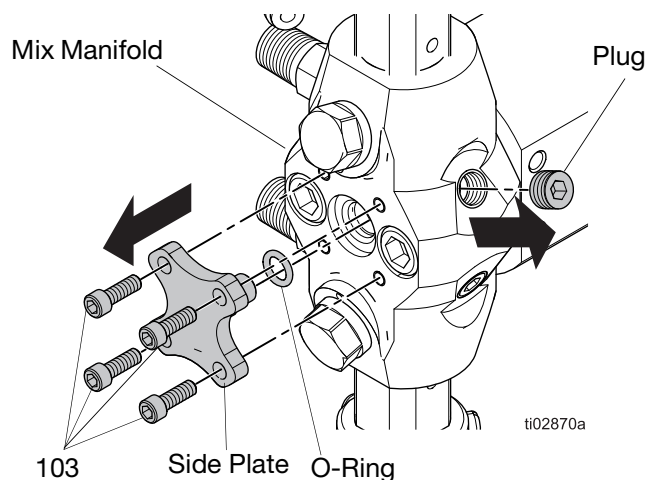

FIG. 1: Remove Side Plate and Plug
3. Loosen the screws and remove the side plate and o-ring from both sides of the mix manifold. See FIG. 1.
5. Remove the plugs. See FIG. 1.